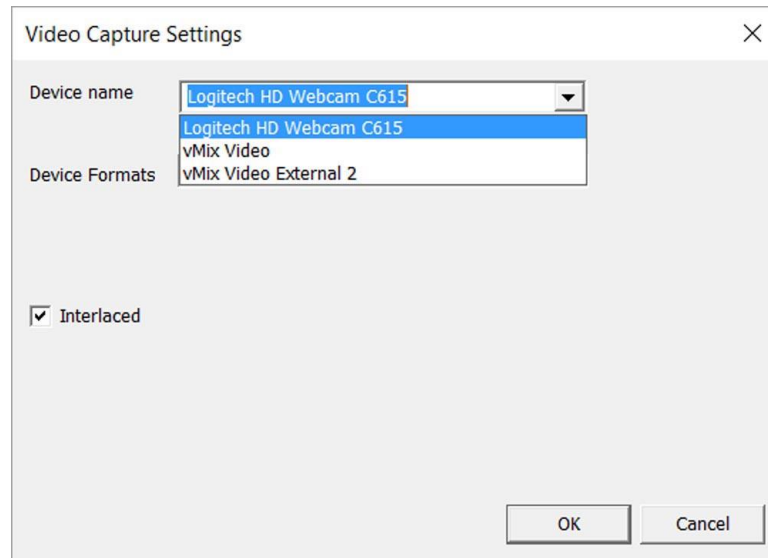

Figure 24 – The Video Capture screen allows you to select your camera if plugged in
- The VIDEO CAPTURE Settings screen similar to shown in **Figure 24** should appear.